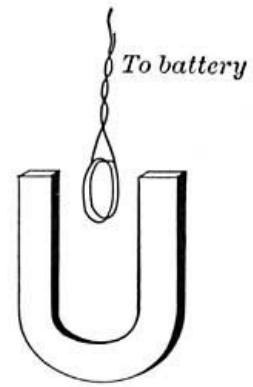
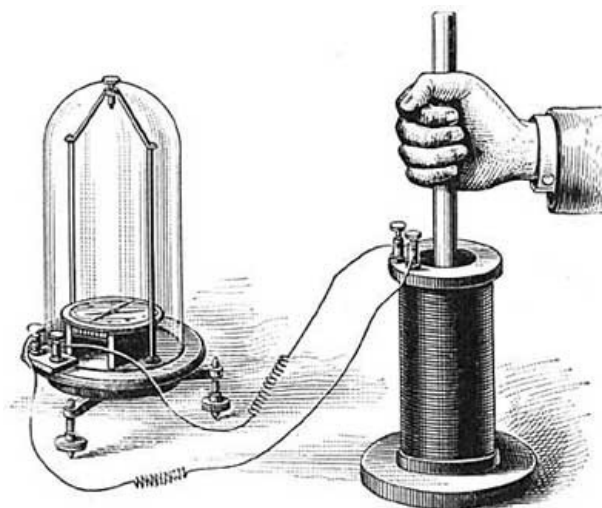
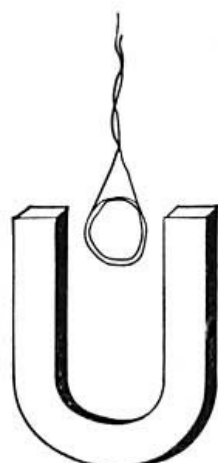

FIG. 228.—The coil turns in such a way that its north pole is opposite the south pole of the magnet.
FIG. 237.—The motion of a magnet within a coil of wire produces a current of electricity.
FIG. 238.—As long as the coil rotates
It is easy to see that long-continued rotation would be impossible in the arrangement of Figure 228, since the twisting of the suspending wire would interfere with free motion. If the motor is to be used for continuous motion, some device must be employed by means of which the helix is capable of continued rotation around its support.
Attach a closely wound coil to a sensitive galvanometer (Fig. 237); naturally there is no deflection of the galvanometer needle, because there is no current in the wire. Now thrust a magnet into the coil. Immediately there is a deflection of the needle, which indicates that a current is flowing through the circuit. If the magnet is allowed to remain at rest within the coil, the needle returns to its zero position, showing that the current has ceased. Now let the magnet be withdrawn from the coil; the needle is deflected as before, but the deflection is in the opposite direction, showing that a current exists, but that it flows in the opposite direction. We learn, therefore, that a current may be induced in a coil by moving a magnet back and forth within the coil, but that a magnet at rest within the coil has no such influence.
**320. A Test of the Preceding Statement.** We will test the statement that a magnet has electric properties by another experiment. Between the poles of a strong magnet suspend a movable coil which is connected with a sensitive galvanometer (Fig. 237). Starting with the coil in the position of Figure 228, when many lines of force pass through it, let the coil be rotated quickly until it reaches the position indicated in Figure 238, when no lines of force pass through it. During the motion of the coil, a strong deflection of the galvanometer is observed; but the deflection ceases as soon as the coil ceases to rotate. If, now, starting with the position of Figure 238, the coil is rotated forward to its starting point, a deflection occurs in the opposite direction, showing that a current is present, but that it flows in the opposite direction. So long as the coil is in motion, it is cut by a varying number of lines of force, and current is induced in the coil.